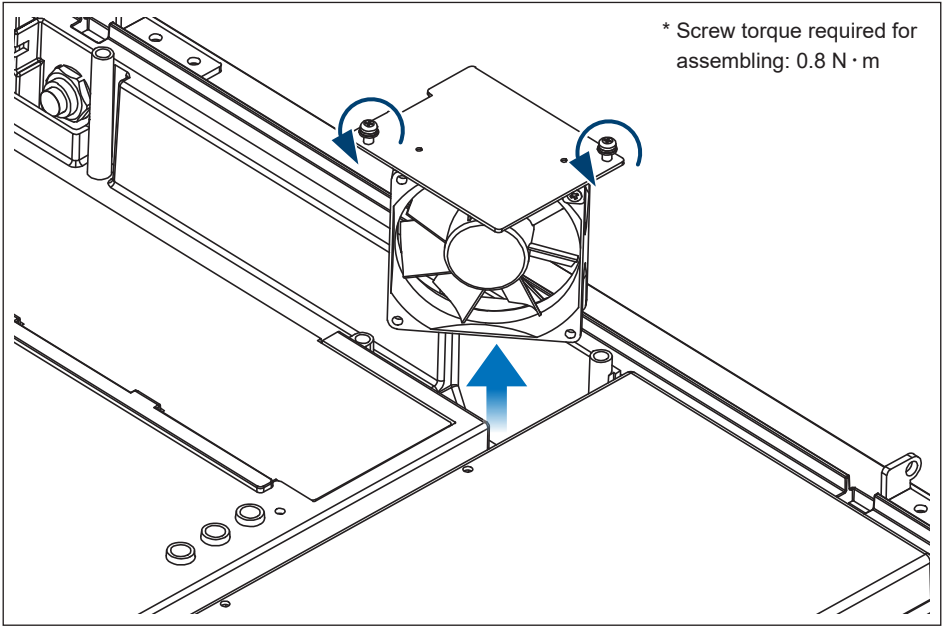

Figure 5-10: Take off the internal fan 1
- (3) Loose two self-retaining screws and remove the fan cabinet. (**Figure 5-10**)